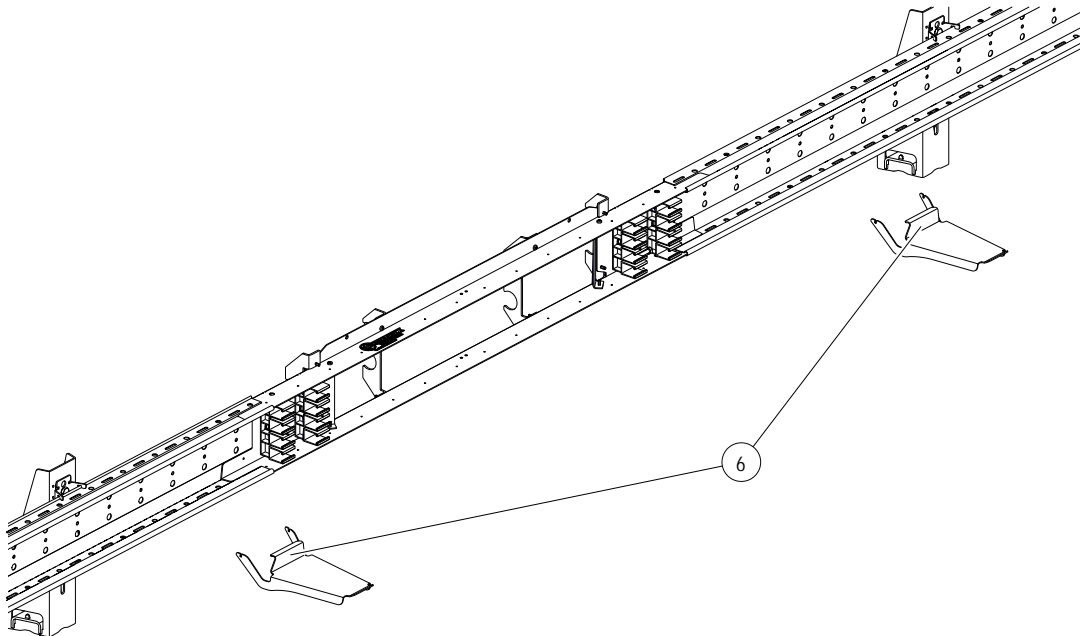

Fig. 46: Hook auxiliary console (6) onto the ProShell support profile
1. Hook auxiliary consoles (6) onto the ProShell support profile rails (see Fig. 46).